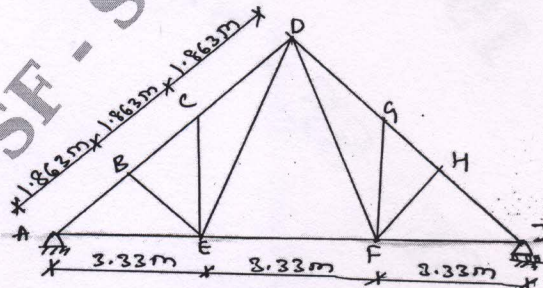

Fig.Q3
- 3 The centre line of a roof truss is as shown in the Fig.Q3. The forces in the members of the truss due to dead load, live load and wind load is given below: Design the roof truss member using M16 bolts of property class 4.6. Also design a bearing plate and anchor bolts for a pull of 40 kN. Use M20 grade concrete. Draw to suitable